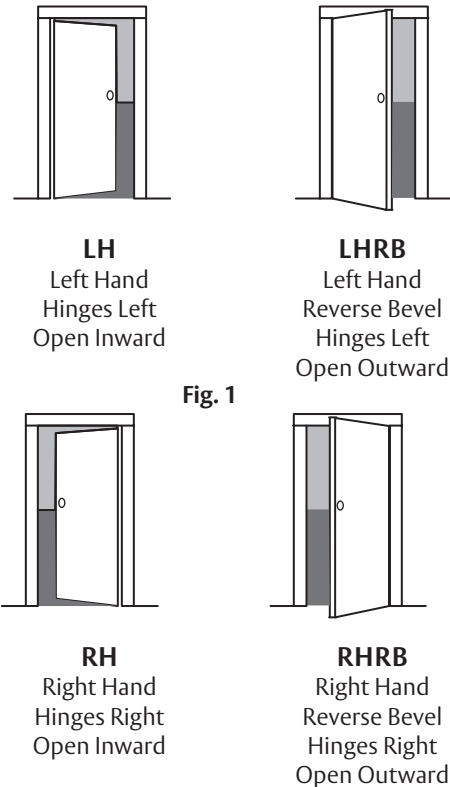

Fig. 1
- a. Verify hand and bevel of door. (Fig. 1)